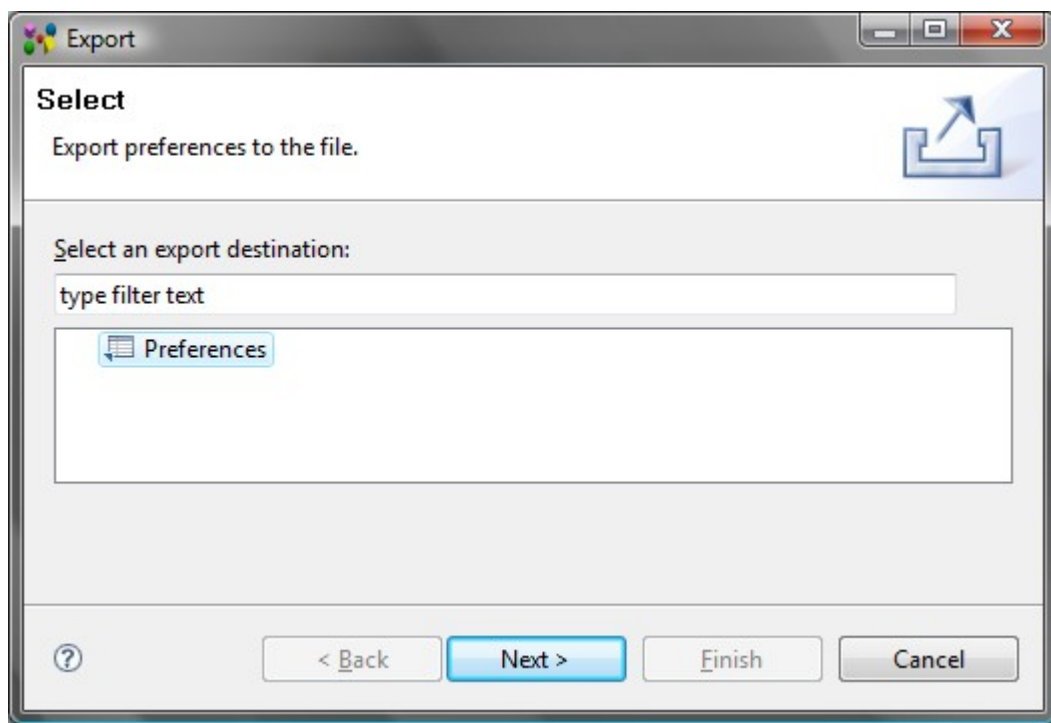

Figure 3. Export wizard, selected Preferences item
- Select **Preferences** item (see Figure 3) and click **Next** button.